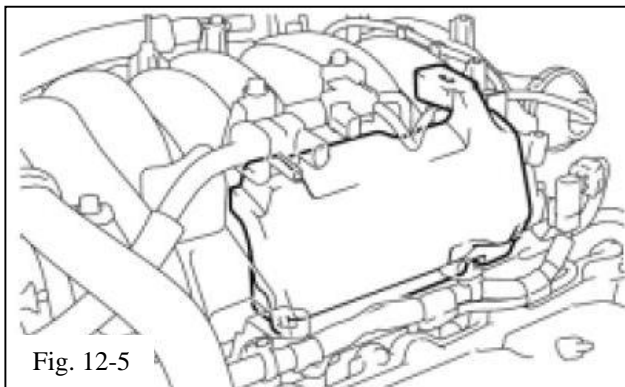

Fig. 12-5
- (h) Remove the No. 1 engine cover sub-assembly (Fig. 12-5). Discard this part.